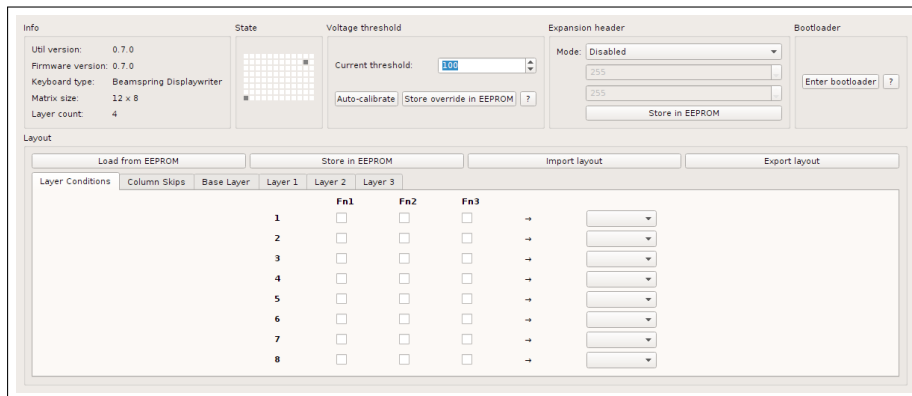

Figure 4: 3727 keyboard with sense threshold correctly set
At some point, you will notice some keys will appear as pressed that don’t correspond to physical keys. There are usually no more than 3 or 4 of these. These will come into play later on with auto-calibration. Figure 4 shows a keyboard with these calibration nodes registering.
- You must set up a “condition” on the “Layer Conditions” tab; this allows setting up combinations of more than one Fn key—one example is shown in Figure 4 on page 8